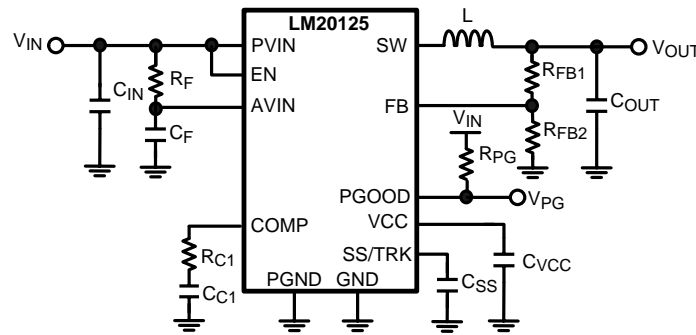

Figure 25. Typical Application Circuit
The LM20125 switching regulator features all of the functions necessary to implement an efficient low voltage buck regulator using a minimum number of external components. This easy to use regulator features two integrated switches and is capable of supplying up to 5A of continuous output current. The regulator utilizes peak current mode control with nonlinear slope compensation to optimize stability and transient response over the entire output voltage range. Peak current mode control also provides inherent line feed-forward, cycle-by-cycle current limiting and easy loop compensation. The fixed 500 kHz operating frequency minimizes the inductor size while still achieving efficiencies up to 96%. The precision internal voltage reference allows the output to be set as low as 0.8V. Fault protection features include: current limiting, thermal shutdown, over voltage protection, and shutdown capability. The device is available in the HTSSOP 16-pin package featuring an exposed pad to aid thermal dissipation. The LM20125 can be used in numerous applications to efficiently step-down from a 5V or 3.3V bus. The typical application circuit for the LM20125 is shown in Figure 25 in the design guide.
This section walks the designer through the steps necessary to select the external components to build a fully functional power supply. As with any DC-DC converter numerous trade-offs are possible to optimize the design for efficiency, size, or performance. These will be taken into account and highlighted throughout this discussion. To facilitate component selection discussions the circuit shown in Figure 25 below may be used as a reference. Unless otherwise indicated all formulas assume units of amps (A) for current, farads (F) for capacitance, henries (H) for inductance and volts (V) for voltages.
To prevent high frequency noise spikes from disturbing the sensitive analog circuitry connected to the AVIN and AGND pins, a high frequency RC filter is required between PVIN and AVIN. These components are shown in Figure 25 as C_F and R_F . The required value for R_F is 1Ω. C_F must be used. Recommended value of C_F is 1.0 μF. The filter capacitor, C_F should be placed as close to the IC as possible with a direct connection from AVIN to AGND. A good quality X5R or X7R ceramic capacitor should be used for C_F .